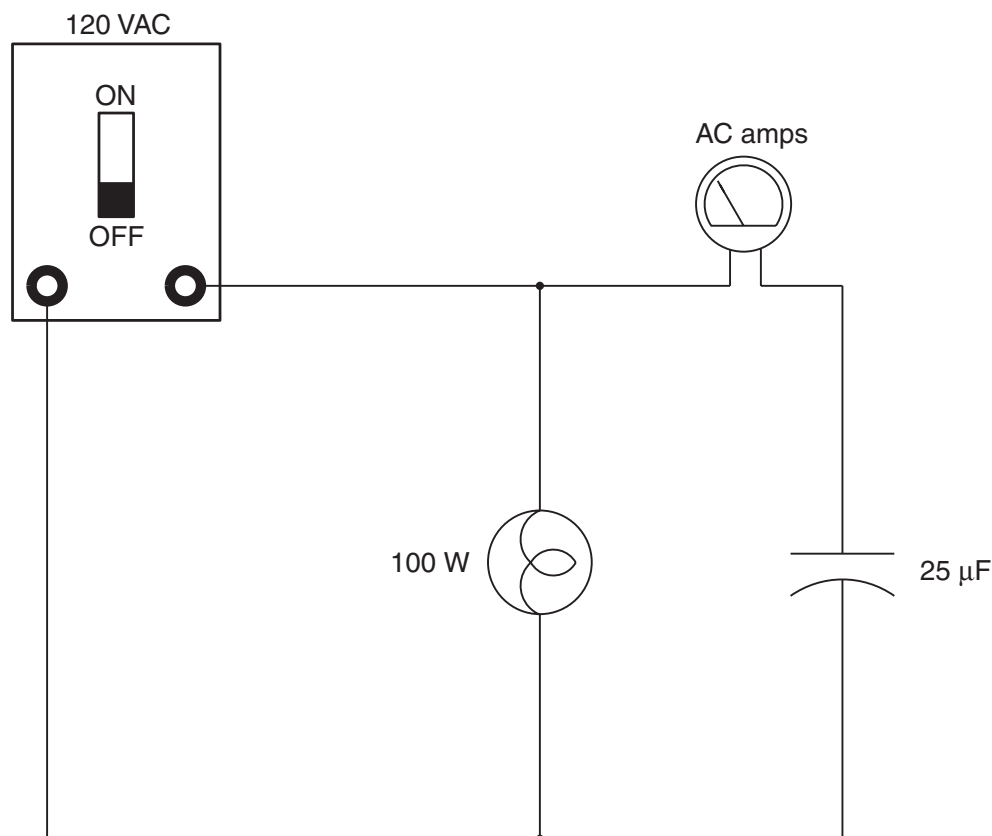

Figure 15-6 Measuring current through the capacitive load.
7. Connect the AC ammeter in series with the inductor as shown in Figure 15-6.